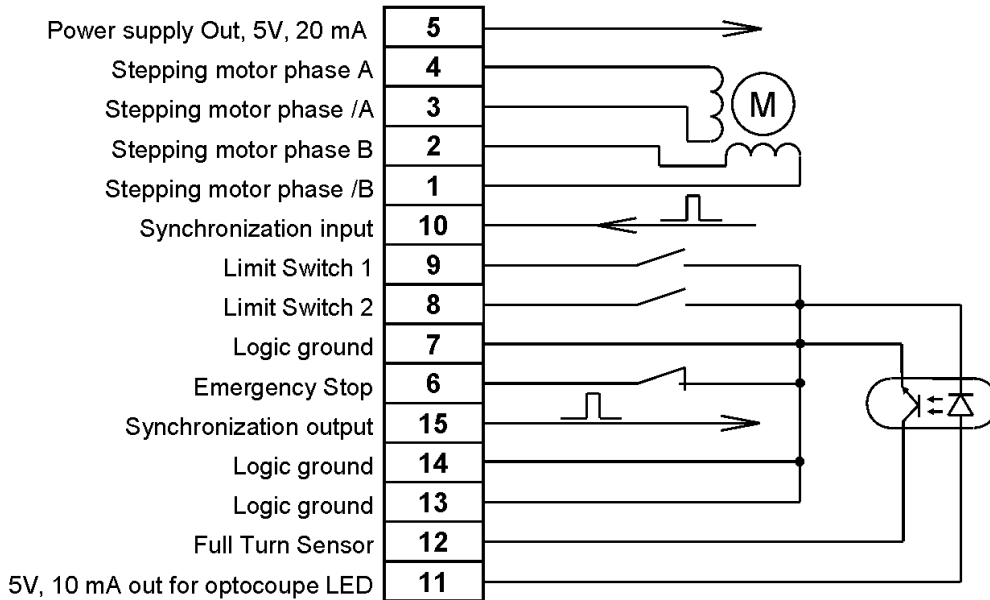

Figure 4. Wiring diagram.
- **Stage to controller cable.** It connects 8SMC1-USBhF to translational or rotational stage. This cable is plugged to 8SMC1-USBhF by standard 15 Pin DSub connector according to Figure 4. If you use handmade motorized stage to controller cable make sure that it configures with Figure 4 and there is no contact between stepping motor phase windings and 8SMC1-USBhF ground. The power driver will be damaged if such grounding present.